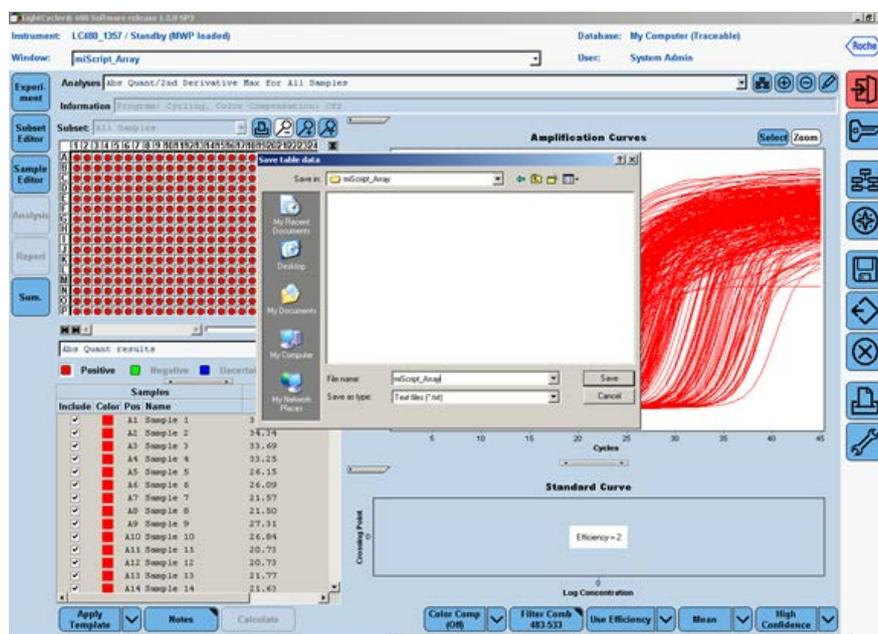

Figure 10. Exporting the Cp values.
22. Once the Cp values are generated, move the mouse over to the Samples window and click to highlight the Samples result table. Right click the “Export” button to export the data. A “Save table data” dialog box will appear (Figure 10). Enter a filename to save the data as a text file. Then click the  button on the right panel to save the Second Derivative Maximum Analysis and the Cp values as part of the run file.